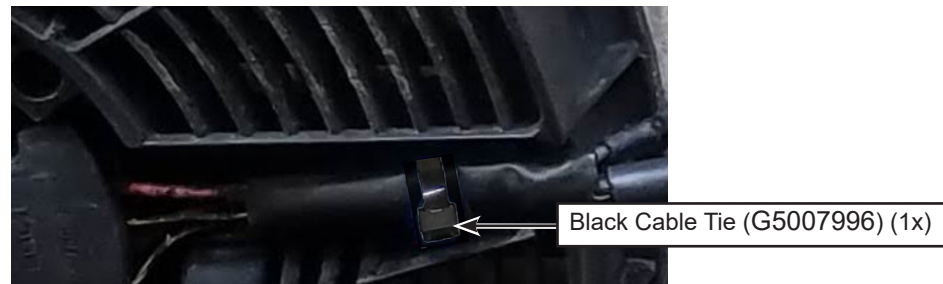

Figure 19 - Black Cable Tie Securing the Wiring at Fan Side
- 1.34. Secure the fan wiring pigtail with a black cable tie PN G5007996 (1x) (see figure 19).